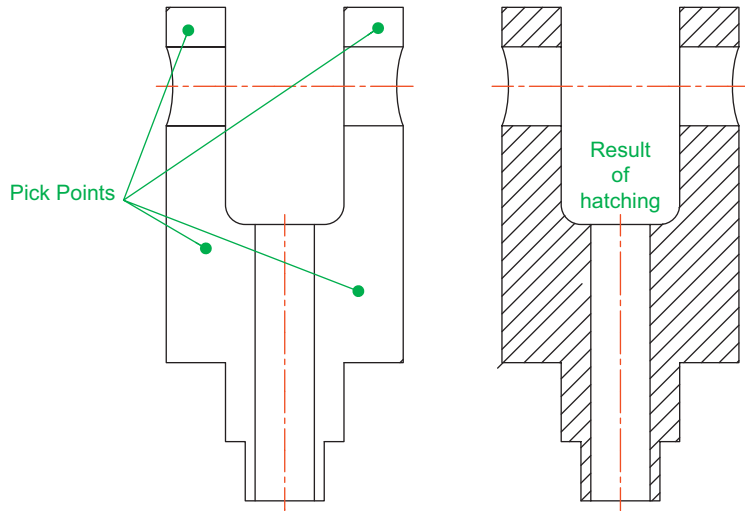

Fig. 7.14 The result of hatching
- In the front view *pick* points as shown in the left-hand drawing of Fig. 7.14. The dialog reappears. *Click* the **Preview** button of the dialog and, in the sectional view which reappears, check whether the hatching is satisfactory. In this example it may well be that the **Scale** figure in the dialog needs to be *entered* as **2** in place of the default **1**. Press the **Esc** key of the keyboard and the dialog returns. Change the figure and **Preview** again. If satisfied *right-click*.